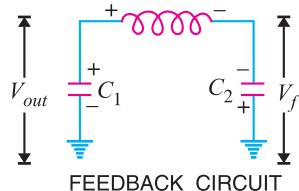

Fig. 14.11
**Circuit operation.** When the circuit is turned on, the capacitors  $C_1$  and  $C_2$  are charged. The capacitors discharge through  $L$ , setting up oscillations of frequency determined by exp.\*\* (i). The output voltage of the amplifier appears across  $C_1$  and feedback voltage is developed across  $C_2$ . The voltage across it is  $180^\circ$  out of phase with the voltage developed across  $C_1$  ( $V_{out}$ ) as shown in Fig. 14.11. It is easy to see that voltage feedback (voltage across  $C_2$ ) to the transistor provides positive feedback. A phase shift of  $180^\circ$  is produced by the transistor and a further phase shift of  $180^\circ$  is produced by  $C_1 - C_2$  voltage divider. In this way, feedback is properly phased to produce continuous undamped oscillation.
\*\* Referring to Fig. 14.11, it is clear that  $C_1$  and  $C_2$  are in series. Therefore, total capacitance  $C_T$  is given by;
\*\*\* Referring to Fig. 14.11, the circulating current for the two capacitors is the same. Further, capacitive reactance is inversely proportional to capacitance.